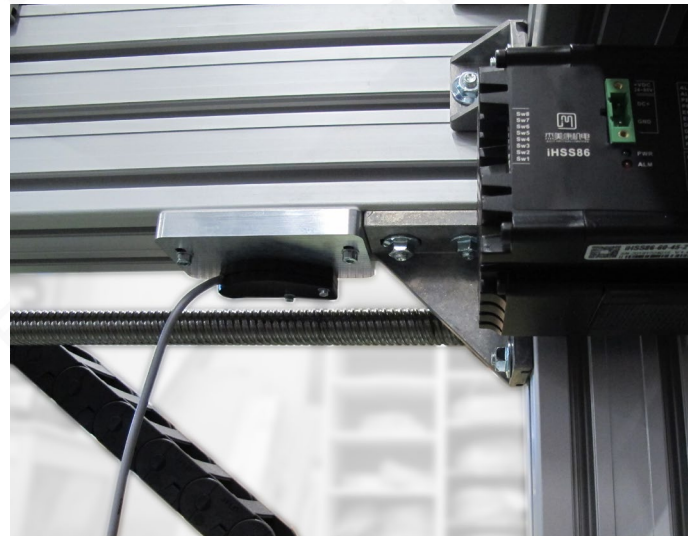

Fig. 8: Reference switch, gantry version
- To release by the portal walls, mount the fitted plates under the side profiles with two M5 x 25 screws, washers and M5 slot 10 hammer nuts, as shown in Fig. 8.